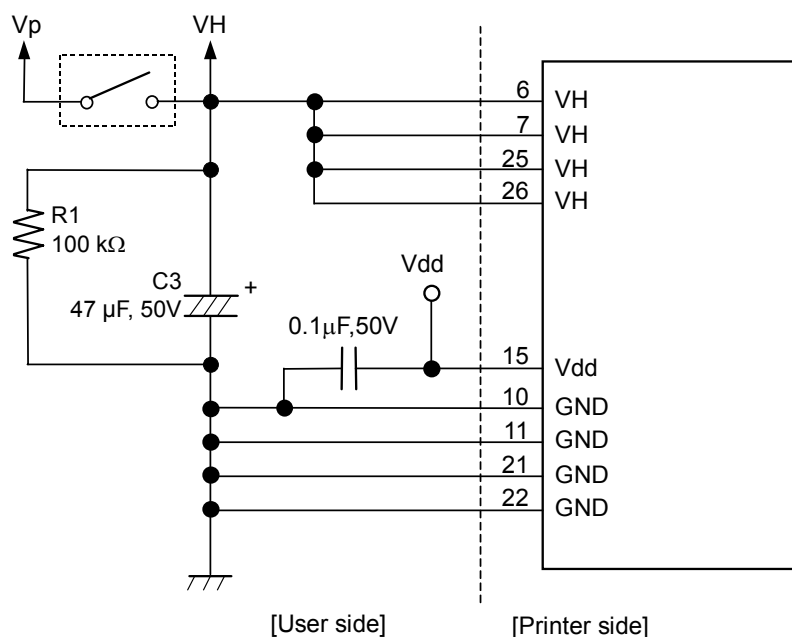

Figure 1.3.1 Example Power Supply Connection Circuit for the Thermal Print Head
- 1) To prevent electrolytic corrosion of the print head electrode, a device that turns the power supply for the head on/off must be installed. (See inside the dotted box line in Figure 1.3.1.) This device (such as FET) should have a low voltage loss.